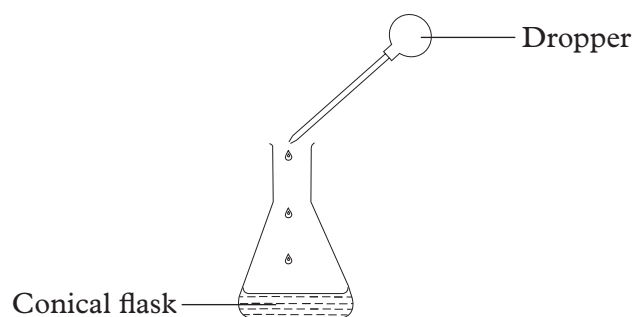

Fig. 7.5: Adding an indicator to a solution
- Add 2 - 3 drops of the indicator as shown in Fig. 7.5.